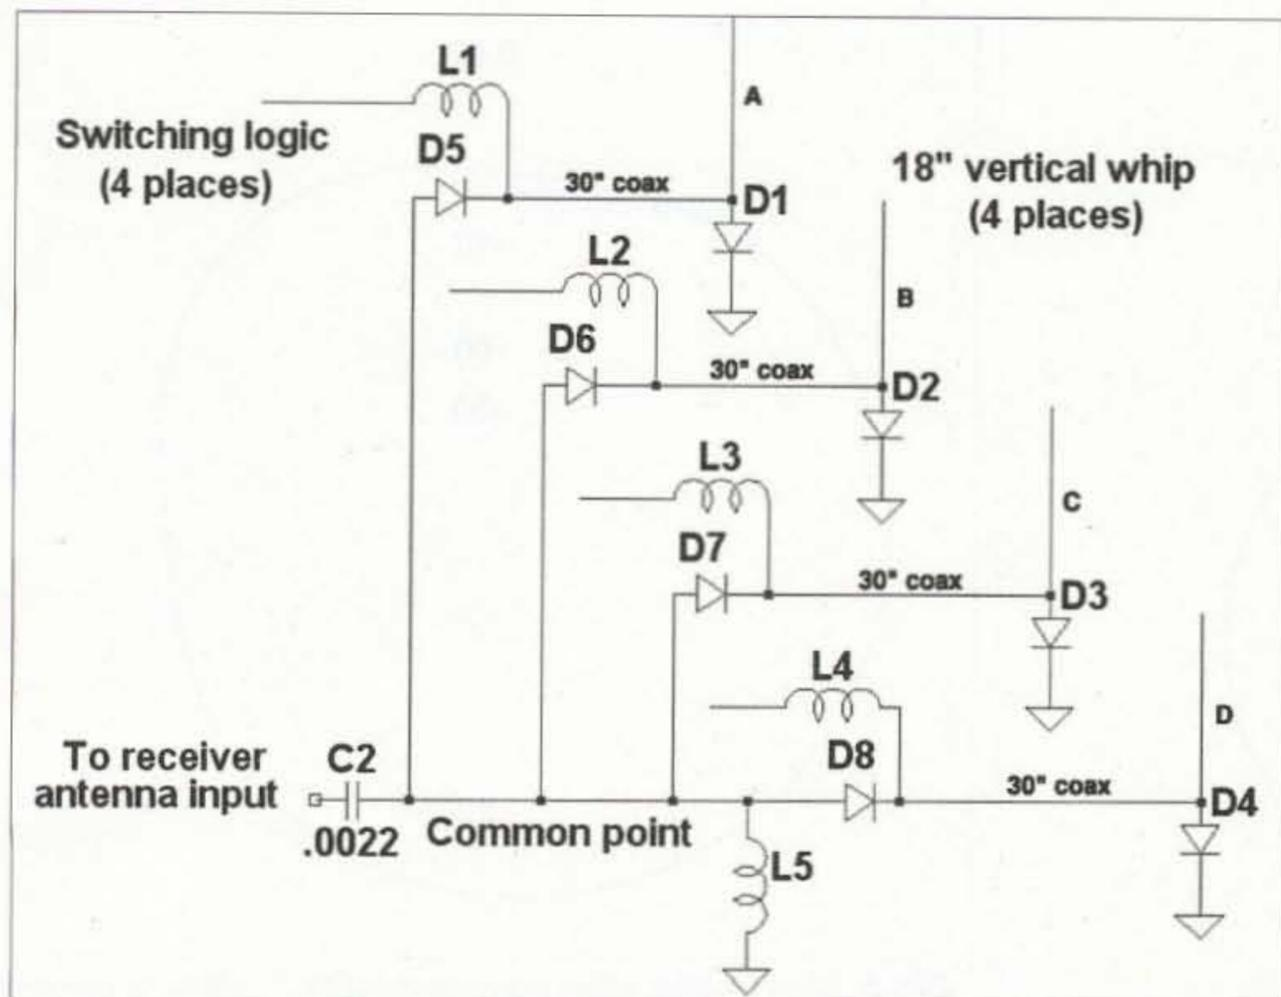

Fig. 1. Simplified schematic of the Dick Smith Doppler RF switcher section. Inductors L1-L5 are RF chokes.
**Fig. 1. 1st QSO via PSK63** — This is the WinPSK software with the PSK63 module up and running and showing evidence they heard me answer their CQ! See the text for directions to set up this bit of freeware to try this mode for yourself. The PSK63 responds the same as using PSK31 except for the speed. By my measure of timing, it is precisely twice as fast. You will be amazed. The waterfall display indicates I had a narrow filter in place from the rig, hence only two signals showing. The active trace on the left was not the answering signal. It was the one to the right that is disappearing down the waterfall. Things were going so quickly, that by the time I decided to snap the screenshot, the other station came back to me a second time. But we worked and it was only his third QSO in the PSK63 mode. Activity after these first few days picked up rapidly as two more software packages came on the scene. (See text.) At the early phase of the PSK63 adventure when this was being written, this software did not have a way to change modes without shutting down the program and rebooting from a shortcut icon. This only takes a few moments and you find is not often necessary. The other two programs that came along shortly can be switched internally. This is very fascinating, if for no other reason than it is really fast, about 100 wpm!
Fig. 1 is a simplified schematic of the antenna switcher section of a typical Doppler set of the early 1980s, the Dick Smith Electronics (DSE) Model K-6345 from Australia. Series diodes D1-D4 are located on a circuit board in a plastic box, intended to be affixed to the vehicle roof with a suction cup. Wire lengths from each series diode to the common point are exactly equal, about one inch. Separate coax cables, each about 30 inches long and all four equal in length, go from the switcher to the vertical whips. At each whip base, a shunt diode (D5-D8) is connected from the whip base to the ground plane and coax shield.
To prove that the shunt RF diodes are the cause of the amplitude directivity problem, simply change the EZNEC model such that switched-off whips are "floating" with no connection to the ground plane, as they would be without the shunt diodes. That gives the excellent pattern of Fig. 3. There is just 1.3 dB variation around the azimuth circle, which is almost insignificant. Could this be an approach to the perfect Doppler array? Yes, but if the shunt diodes are simply deleted from the circuit of Fig. 1, we won't achieve it. That's because the switched-off whips "look back" into an uncontrolled length of coax cable terminated in an open circuit (the switched-off diodes D1-D4).